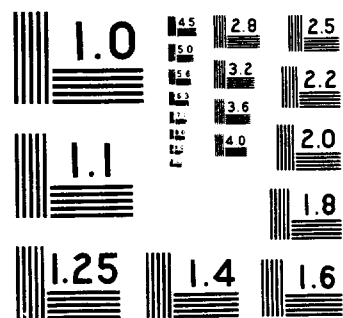

Fig. 1 — Resolution Test Chart
- 4.01 *General:* Resolution is a measure of the sharpness of an image, and is expressed in the number of lines per millimeter which can be distinguished. Resolution of duplicate microfilm is measured by examining a duplicate copy of a microfilm test chart (see Fig. 1) under a microscope to determine which of the 21 patterns on the test chart is the smallest pattern in which lines can be distinguished both horizontally and vertically. The number adjacent to this pattern multiplied by the reduction ratio at which it was photographed indicates the resolution in number of lines per millimeter. Test target images for checking the resolution of duplicate microfilm are the copies of the test target images on the duplicate microfilm.